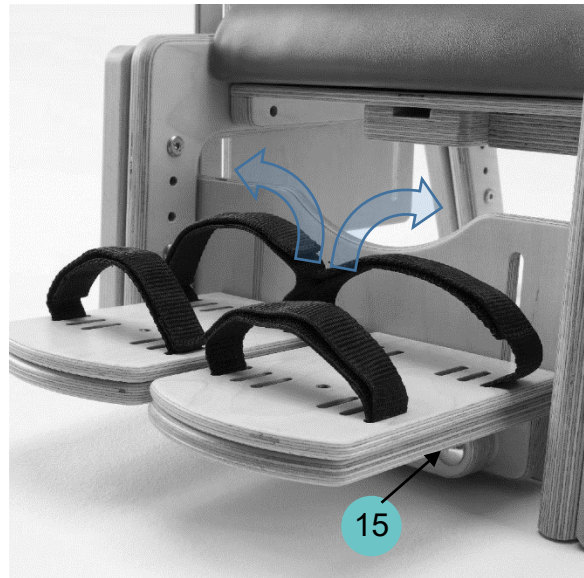

Figure 14
- The height of the folding footrest can be adjusted by first loosening the two handwheels located on the back of the kicking board (Ref 15 of Figure 14)